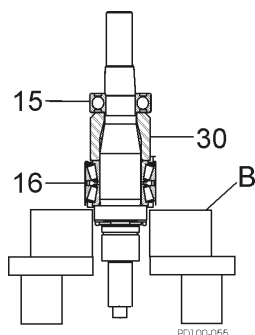

Figure 44 - Remove Bearings From Shaft
10. Use a hydraulic press and V-blocks (Figure 44, item B) to remove the bearings (items 15 and 16) and spacer (item 30)